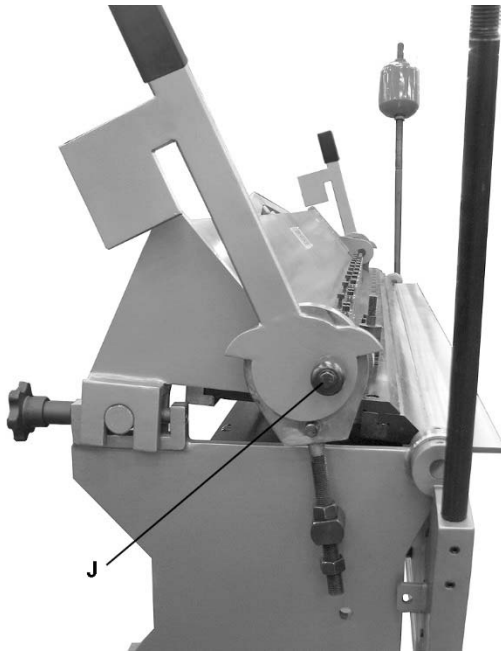
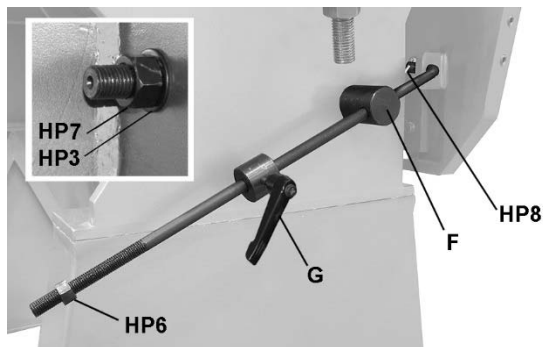

Figure 3
Figure 4
6. Remove screw, spring cover and spring (J, Figure 3). Slide handle outward just enough to clear stop pin, and rotate handle to a higher position, as shown. Reinstall spring, spring cover and screw, and tighten screw until there is no “play” in the handle.
7. Install counterweight assemblies to left and right hinges and tighten set screws. See Figure 3.
8. Install handle (B) to front of apron (HP1, HP4, HP5).
9. Install stop rod assembly on left side of brake, through weldment on apron, as shown in Figure 4. Secure stop rod pin (F) with flat washer and hex nut (HP7, HP3). Install cotter pin (HP8) at end of stop rod, and bend with pliers to secure.
Adjust stop collar on stop rod (Figure 4) to limit apron swing.